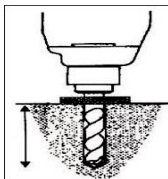

Fig. 17
- Drive a  $\Phi 18$  percussion bit to 160 mm depth in the ground from the holes on the base-plate with an electric hammer (Fig. 17), and clean the hole.